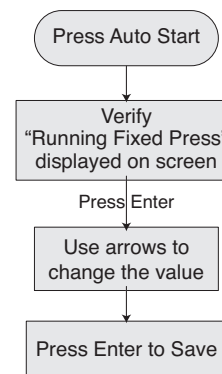

Figure 8-12: Pump Running: Change PSI Setpoint
- B. Follow the keypress sequence shown in Figure 8-12.
- ◆ While running the pump: Follow keypress sequence shown in Figure 8-12 to make desired change. This parameter allows either Internal or External Setpoint to be changed, depending on which one is referenced at the time the change is made.